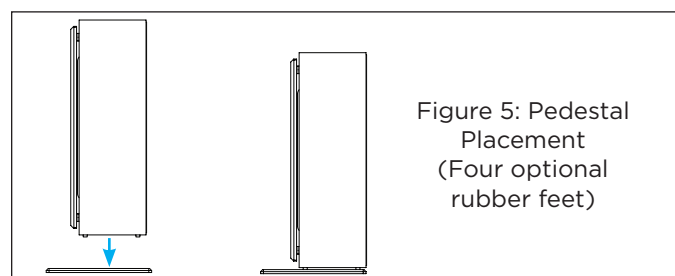

Figure 5: Pedestal
1. Make sure the pedestal is secured to the bottom of the subwoofer (see Figure 5).